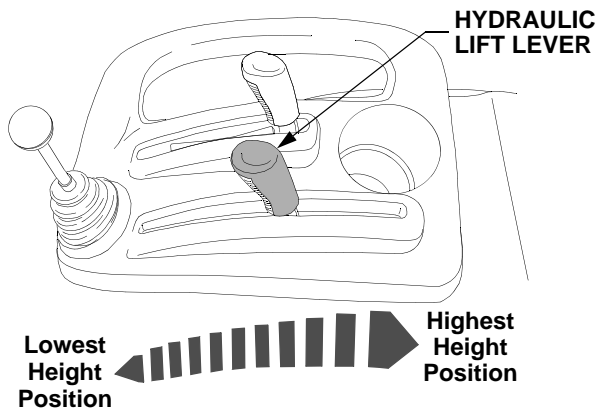

Figure 18
- Move the lift lever forward in the slot to the position that lowers the equipment to the desired height setting. See Figure 18.
- Move the lift lever rearward in the slot to raise the equipment to a higher height setting, or all the way rearward to raise the equipment to the transport position. See Figure 18.